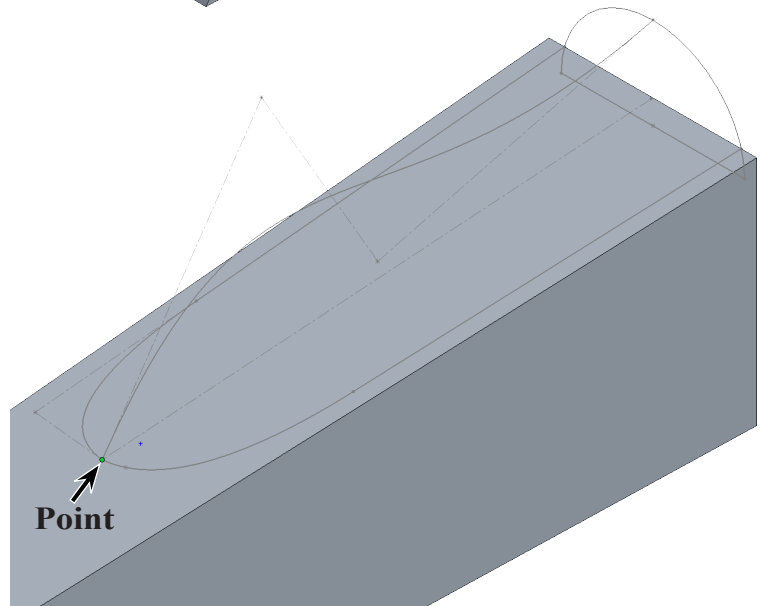

Fig. 54
Step 5. Sketch **one point at front intersection** of Loft sketches, **Fig. 54**. Be very careful to sketch only one point, it is easy to accidentally click extra points.